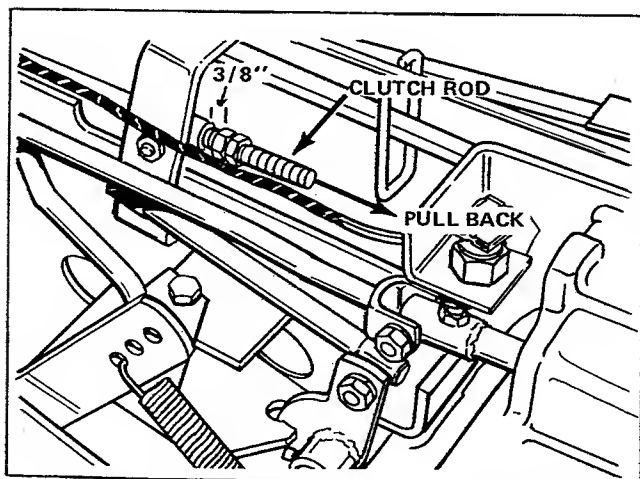

Figure 23. Clutch Rod Clearance Adjustment
2. Pull back firmly on the clutch rod (figure 23). There should be a 3/8 inch gap between the clutch rod guide and the clutch rod adjusting nut.